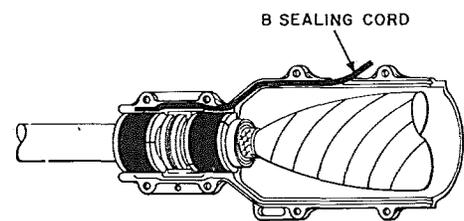

Fig. 19—Placing B Sealing Cord
3.29 Place sealing cord in the side grooves being careful to avoid making flat spots or dents in the cord. **Do not stretch.** It may be necessary to push the B sealing tape away from the grooves at the ends in order to permit placing the sealing cord (Fig. 19). On Y or double-Y splice cases, place a 1-1/2 inch length of B sealing cord in the crotch between the two inner and two outer seals on each end.